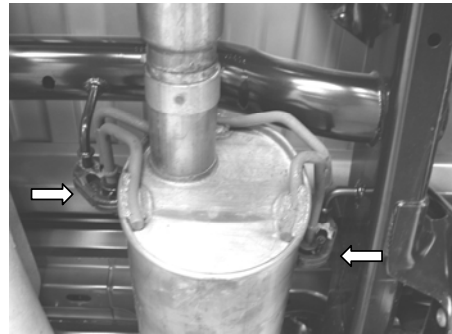

Figure 2
3. Using a muffler stand or an additional person to hold the exhaust up in place, remove all the hangers from the rubber brackets as the ones shown in figure 2.